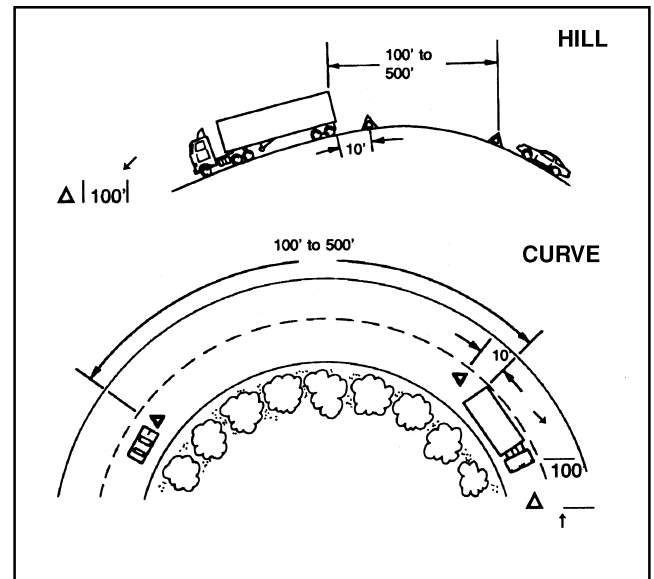

Figure 2-9
- ✓ Back beyond any hill, curve, or other obstruction that prevents other drivers from seeing the vehicle within 500 feet. (See Figure 2-9.)